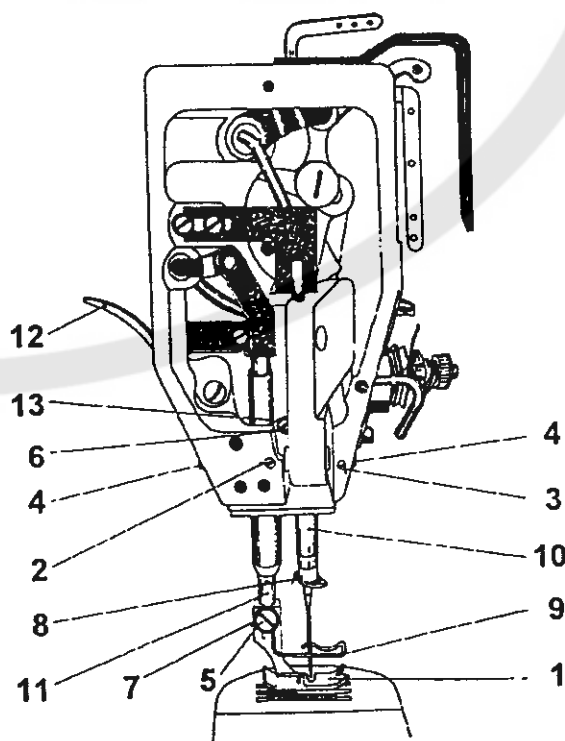

Fig. 4
5. To lift the presser foot (Fig. 4)
7. To insert the needle (Fig. 4)
8. To adjust in height the needle bar (Fig. 4)
14. To exchange the presser foot (Fig. 4)
16. To adjust the needle punches longitudinally into the centre of the slot of the throat plate (Fig. 4)